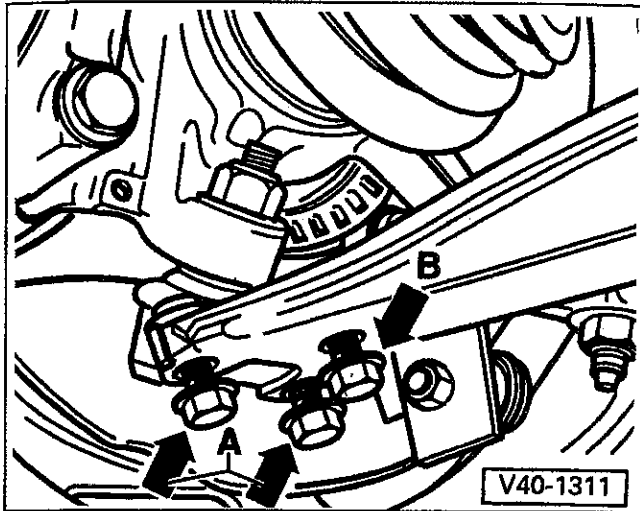

Fig. 17. Ball joint mounting bolts. Loosen bolt (B) and remove bolts (A).
- remove bolts **A**, loosen bolt **B**. See Fig. 17.